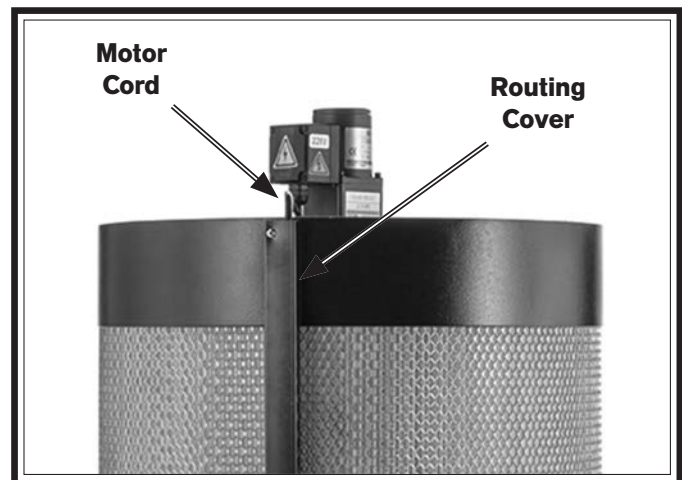

Figure 22. Filter brush motor cord and routing cover.
19. Pull motor cord from filter brush motor through routing cover on canister filter (see **Figure 22**).